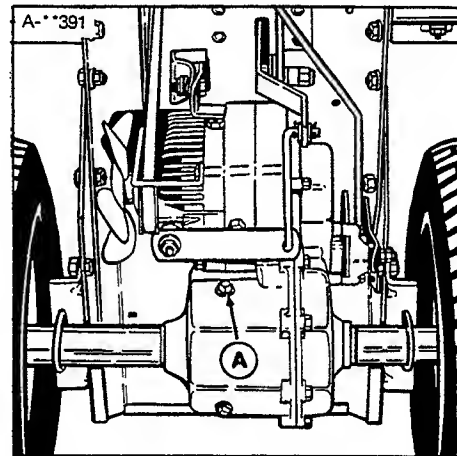

Figure 21. Differential Check Plug
2. Remove the check plug (figure 21) by turning counterclockwise. Oil level